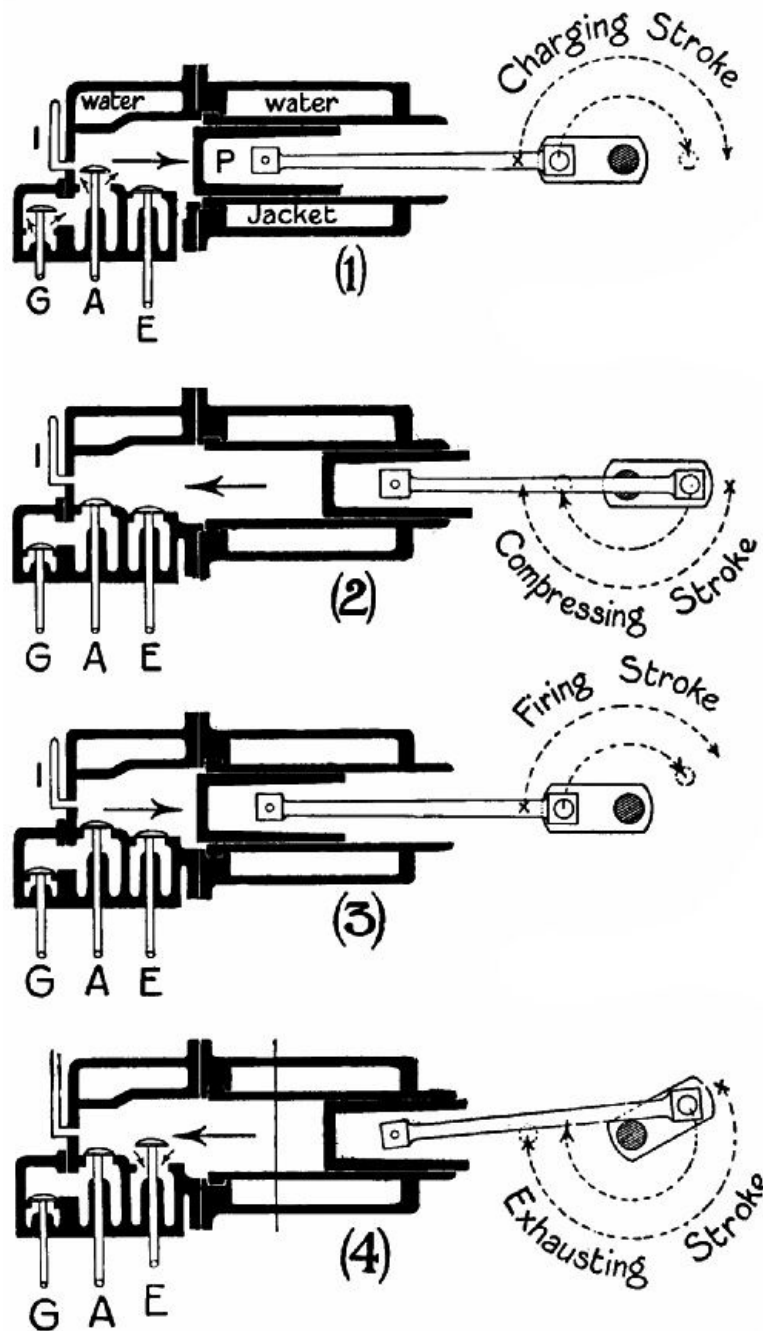

FIG. 39.—Showing the four strokes that the piston of a gas-engine makes during one "cycle."
cylinder has, instead of a slide-valve, two, or sometimes three, "mushroom" valves, which may be described as small and thick round plates, with bevelled edges, mounted on the ends of short rods, called stems. These valves open into the cylinder, upwards, downwards, or horizontally, as the case may be; being pushed in by cams projecting from a shaft rotated by the engine. For the present we will confine our attention to the series of operations which causes the engine to work. This series is called the Beau de Rochas, or Otto, cycle, and includes four movements of the piston. Reference to Fig. 39 will show exactly what happens in a gas-engine—(1) The piston moves from left to right, and just as the movement commences valves G (gas) and A (air) open to admit the explosive mixture. By the time that P has reached the end of its travel these valves have closed again. (2) The piston returns to the left, compressing the mixture, which has no way of escape open to it. At the end of the stroke the charge is ignited by an incandescent tube I (in motor car and some stationary engines by an electric spark), and (3) the piston flies out again on the "explosion" stroke. Before it reaches the limit position, valve E (exhaust) opens, and (4) the piston flies back under the momentum of the fly-wheel, driving out the burnt gases through the still open E. The "cycle" is now complete. There has been suction, compression (including ignition), combustion, and exhaustion. It is evident that a heavy fly-wheel must be attached to the crank shaft, because the energy of one stroke (the explosion) has to serve for the whole cycle; in other words, for two complete revolutions of the crank. A single-cylinder steam-engine develops an impulse every half-turn—that is, four times as often. In order to get a more constant turning effect, motor cars have two, three, four, six, and even eight cylinders. Four-cylinder engines are at present the most popular type for powerful cars.